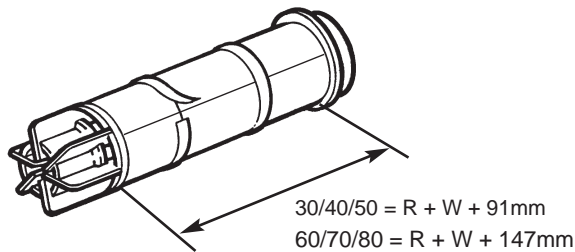

Fig. 43
8. Using the tape provided seal the joints of the three sections of the air duct, ensuring an overlap of at least 30mm (1³/₁₆ in) at each joint (Fig. 43).